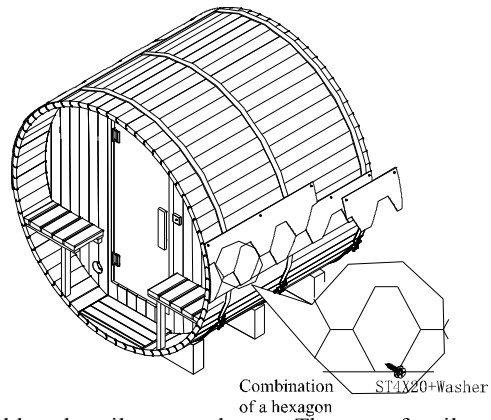

Figure 3
- (4) The teeth of the third-layer tiles should be downwards, and the teeth connect to form a hexagon. (as shown Figure 3)